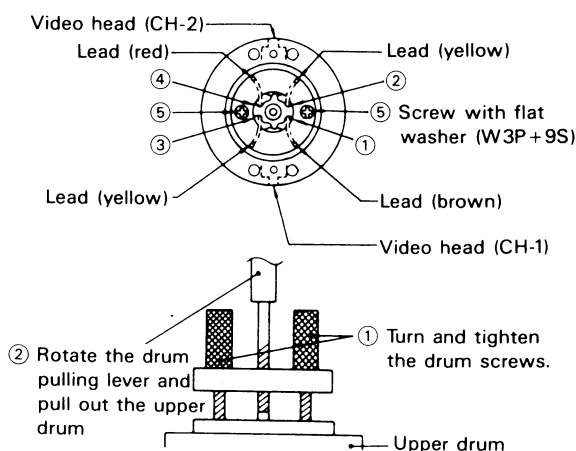

Figure 1-28.
### • Replacement (See Fig. 1-28)
1. Set a new drum for replacement, as shown in Fig. 1-28, and position the leads properly.